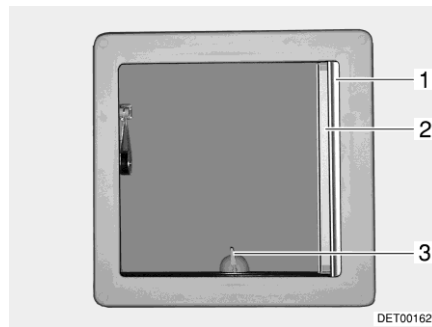
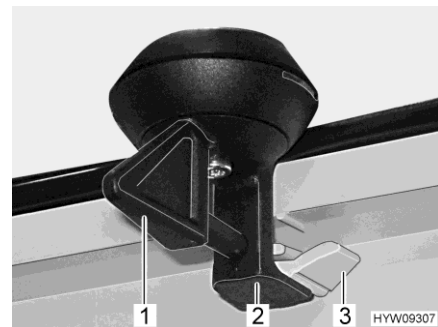

Fig. 80 Hinged skylight
Fig. 81 Lock (hinged skylight)
- Turn the lever (Fig. 80,3 or Fig. 81,1) one quarter turn.
- Turn the lever one quarter turn. The lock (Fig. 81,2) must slide into the bottom catch (Fig. 81,3).
- Pull out Roman shade (Fig. 80,1) and release in the required position. The Roman shade will stay in that position.
- Pull insect screen (Fig. 80,2) out until it engages with the latch on the opposite side.